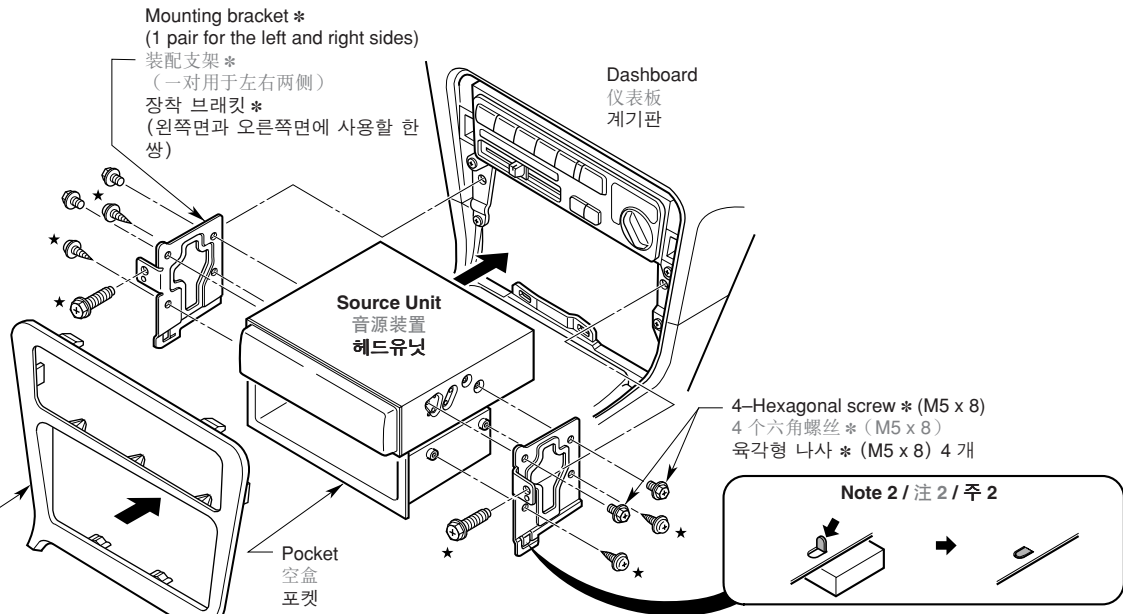

Figure 7 / 图 7 / 그림 7
If the vehicle is equipped with a factory-installed radio, install the source unit with the parts and screws marked (*) (Figure 7).
如果汽车装备有出厂时安装好的收音机，请用带星号(*)的零件和螺丝安装音源装置。（图 7）
2. Secure the mounting brackets to the chassis as shown in Figure 7. Holes are pre-tapped for TOYOTA and NISSAN vehicles; modification, such as drilling new holes, of the mounting brackets may be required for other models.
2. 如图 7 所示，将装配支架固定在底盘上。丰田和日产汽车已预先钻好孔，其他车型可能需要改造装配支架，如钻新孔等。